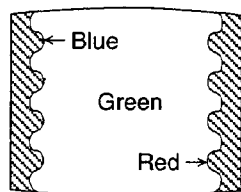

Fig.3-4
5. Move the deflection yoke backwards and adjust with the purity magnet so that the green is at the center and it aligns symmetrically. (See Fig. 3-4)